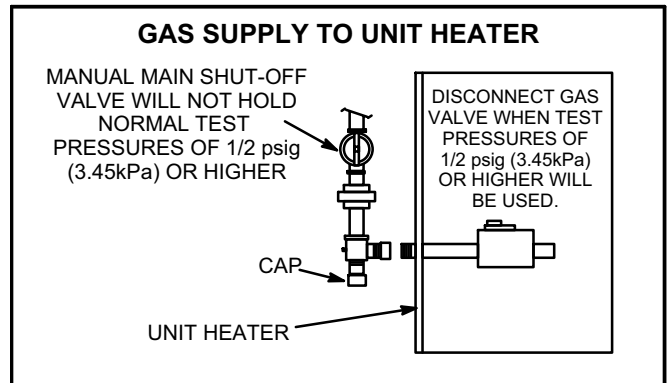

FIGURE 8
The heater and its individual shut off valve must be disconnected from the gas supply piping system during any pressure testing of that system at test pressures in excess of 1/2 psig (3.45kPa). See figure 8.
- 2 - After line pressure has been checked and adjusted, check regulator pressure. Adjust manifold pressure to values specified on the unit rating plate. See figure 8. If unit is installed at an altitude greater than 7500 feet (2286m), unit must be derated by four percent for each additional 1000 feet (305m) above 7500 feet (2286m).